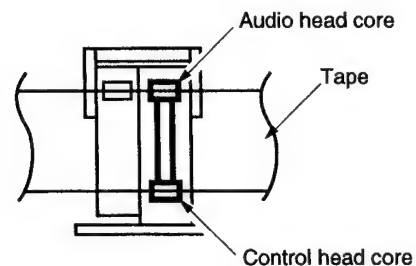

Fig. 1-7-4
- Turn the ACE height adjusting screw so that upper tape edge matches to the upper edge of the audio head core. (Refer to Fig. 1-7-4.)